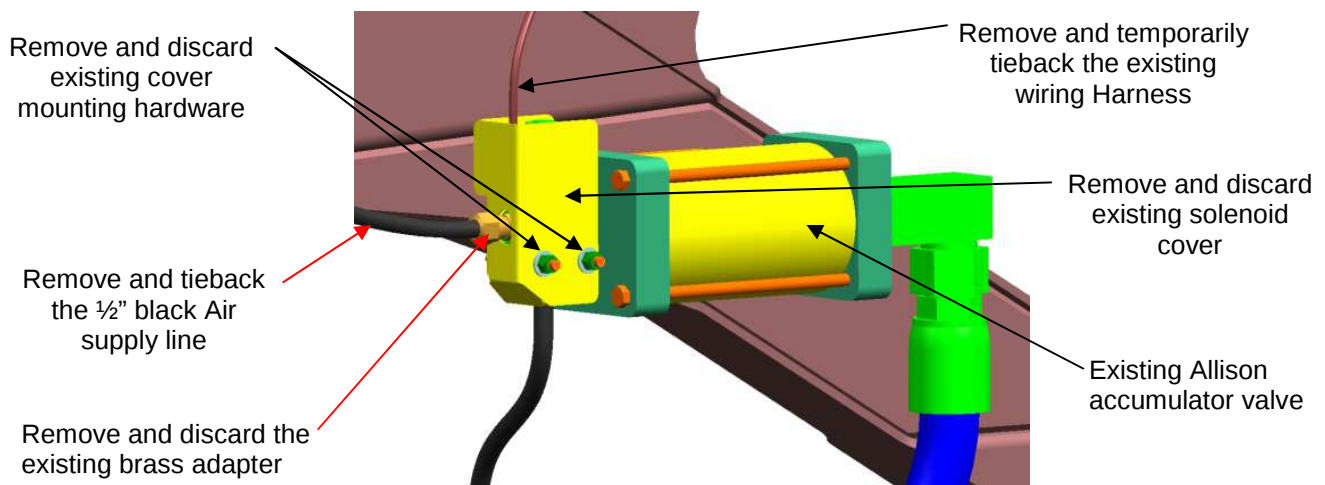

Figure 2: Retarder Solenoid Cover Removal
5. Locate the Allison accumulator valve positioned on the curb side engine main rail. See Figure 2.
6. Remove and discard the existing solenoid cover and cover mounting hardware. See Figure 2.
7. Remove and temporarily tieback the existing wiring harness. See Figure 2.
8. Remove and tieback the ½" black air supply line leading to the retarder solenoid valve. Removing nearest supporting p-clip may be necessary, save for re-installation. See Figure 2.
9. Remove and discard the existing brass adapter. Inspect the threads to be sure they are not damaged or contain slivers, burrs, dirt or other contaminants. See Figure 2.